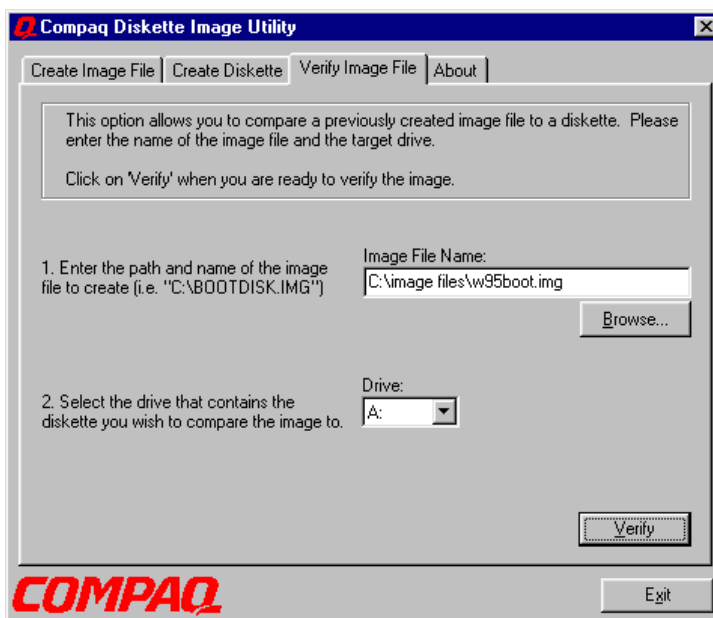

Figure 5-6. Verify Image File screen
3. Provide the location and name of the image file and the target diskette drive. You can navigate to the location of the image file by clicking **Browse**. Your screen should be similar to Figure 5-6.